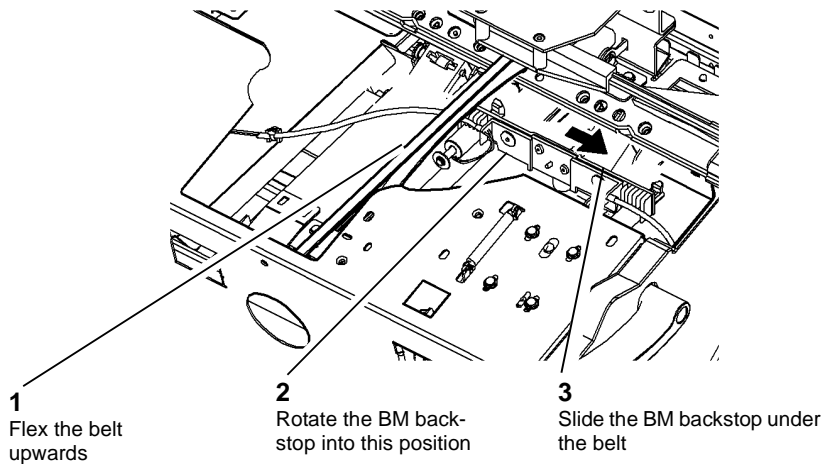

Figure 5 Remove the backstop assembly
- Remove the BM backstop assembly, Figure 5.